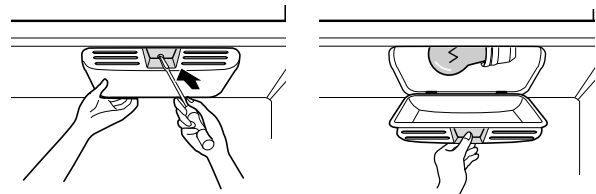

Figure 13
2. Pull light bulb cover down to remove.(Figure13)